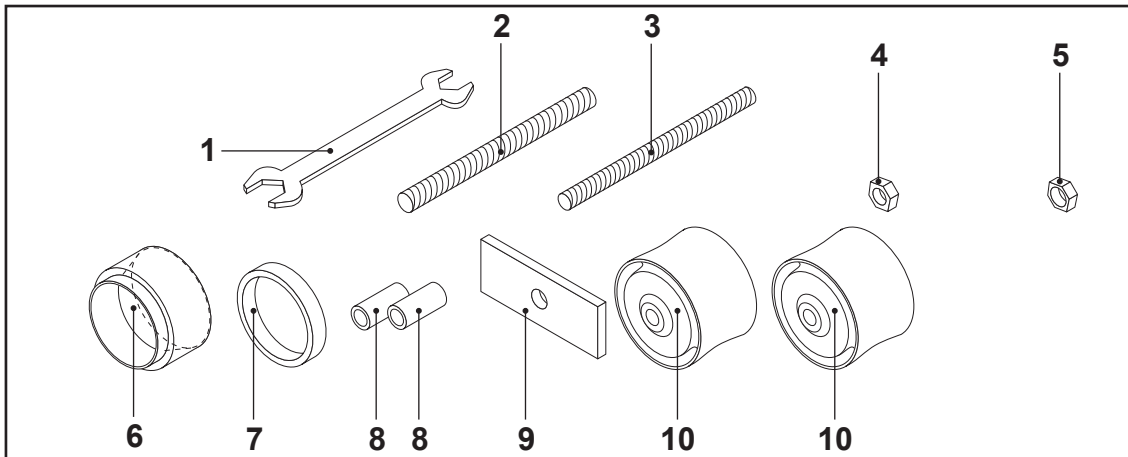

FIG.47
- 32 mm wrench (FIG. 47-REF. 1)
- M20 (FIG. 47-REF. 2) and M16 (FIG. 47-REF. 3) threaded rods
- M20 (FIG. 47-REF. 4) and M16 (FIG. 47-REF. 5) nuts
- piston guide ring (FIG. 47-REF. 6)
- guide spacer (FIG. 47-REF. 7)
- two rod spacers (FIG. 47-REF. 8)
- flange for removing piston (FIG. 47-REF. 9)
- two pistons (FIG. 47-REF. 10)